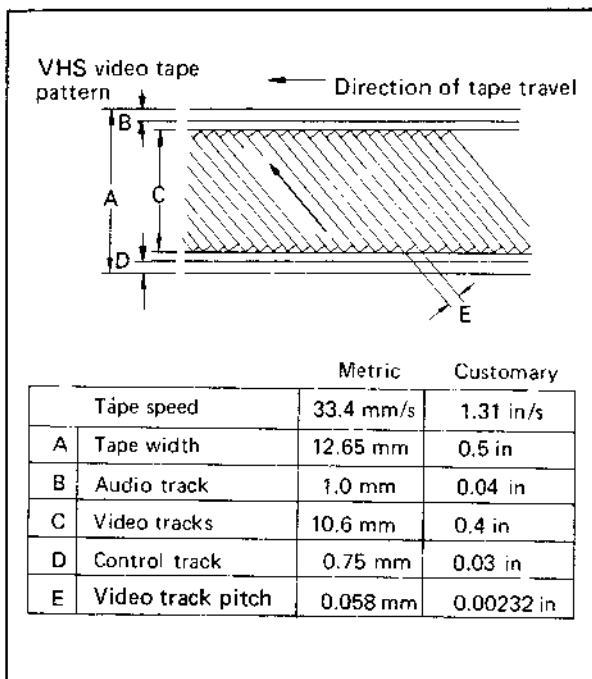

Fig. 2-9
This is a VHS format machine capable of both standard play (SP 2H) and extended play (EP 6H). During the SP mode, the video tape pattern fulfills the VHS specifications noted in Fig. 2-9. As the figure shows, the video track pitch (E) is 58 microns and the tape speed is 33.4 mm/sec (1.31 inches/sec).